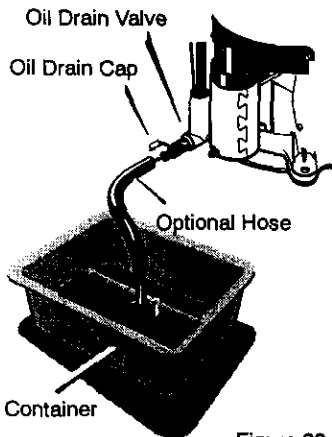

Figure 20
2. Turn **oil drain valve** counter-clockwise and pull to release the **oil drain valve**. See Figure 20.